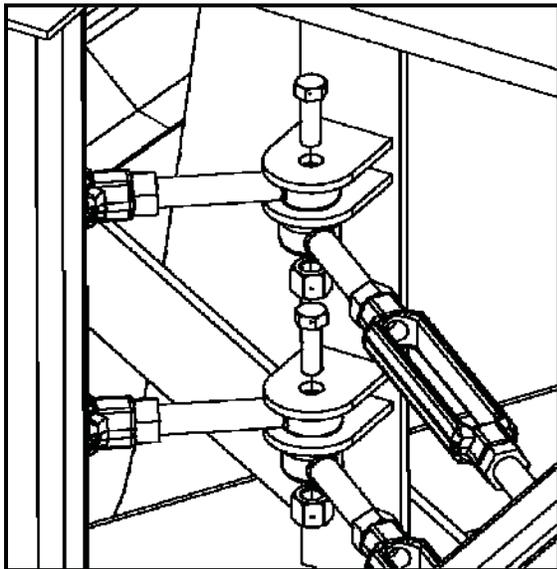
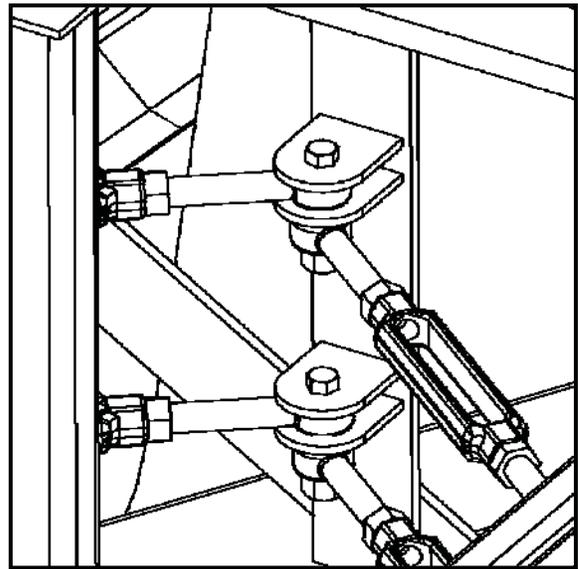
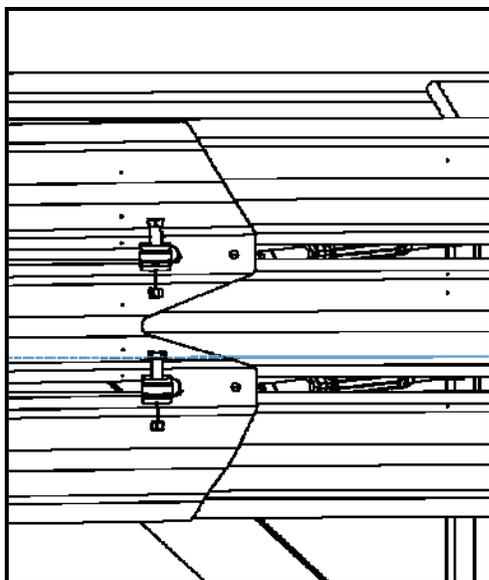

Figure 42: Cable Stops with Hardware
Figure 43: Installed Cable Stops
Figure 44: Transition Panels with Cable Stops
Install the four Transition Cable Stops (10) to the Transition Standing Brace (1) using two bolts (30) and two nuts (31) as shown in Figures 42 and 43. Do not over tighten bolts. The Transition Cable Stops (10) must be free to swing in an impact. Observe the orientation of the Transition Cable Stops (10) as seen in Figure 43. Then fasten the cable end of the Transition Cable Stops (10) to the appropriate Transition Fender Panels (2 and 4) using four bolts (25) and four nuts (26) as shown in Figures 44 and 45. Once the Transition Cable Stops (10) have been fully fastened, loosen the jam nuts on the Transition Cable Stops (10), and tighten the turnbuckles hand tight until the cables have slight tension, tighten and lock the jam nuts in place as shown in Figure 45.